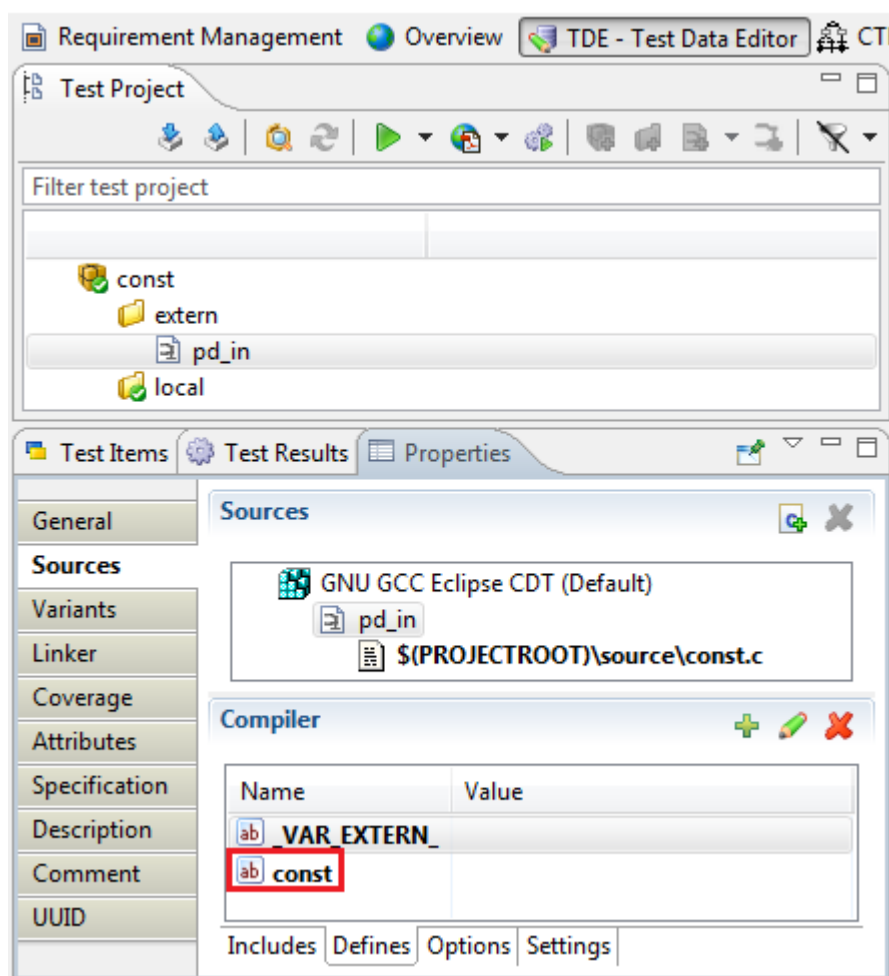

Figure 7.10: Properties view with undefined const modifier
- To add a define that replaces the “const” keyword with an empty content click on  (see figure 7.10) in the Properties view. The New Define popup window opens.